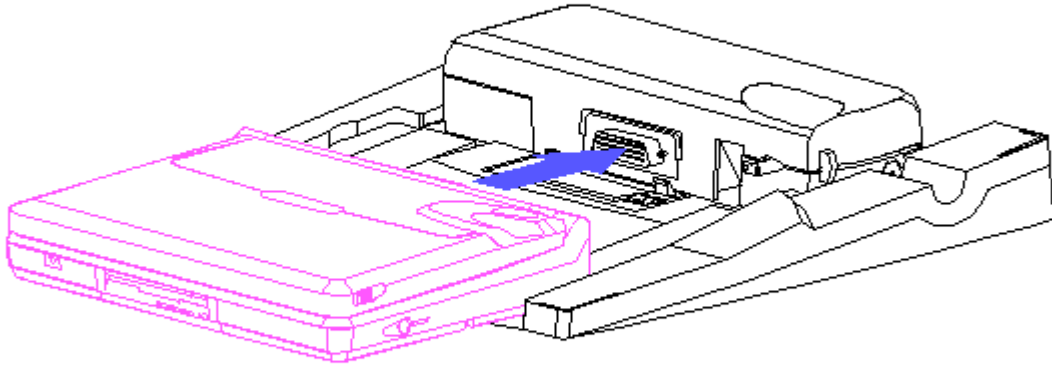

Figure D-15. Docking the Computer in the Compaq MiniStation Convenience Base
8. Place the computer on the convenience base guide rails and slide it toward the back until you feel a slight resistance (Figure D-15).